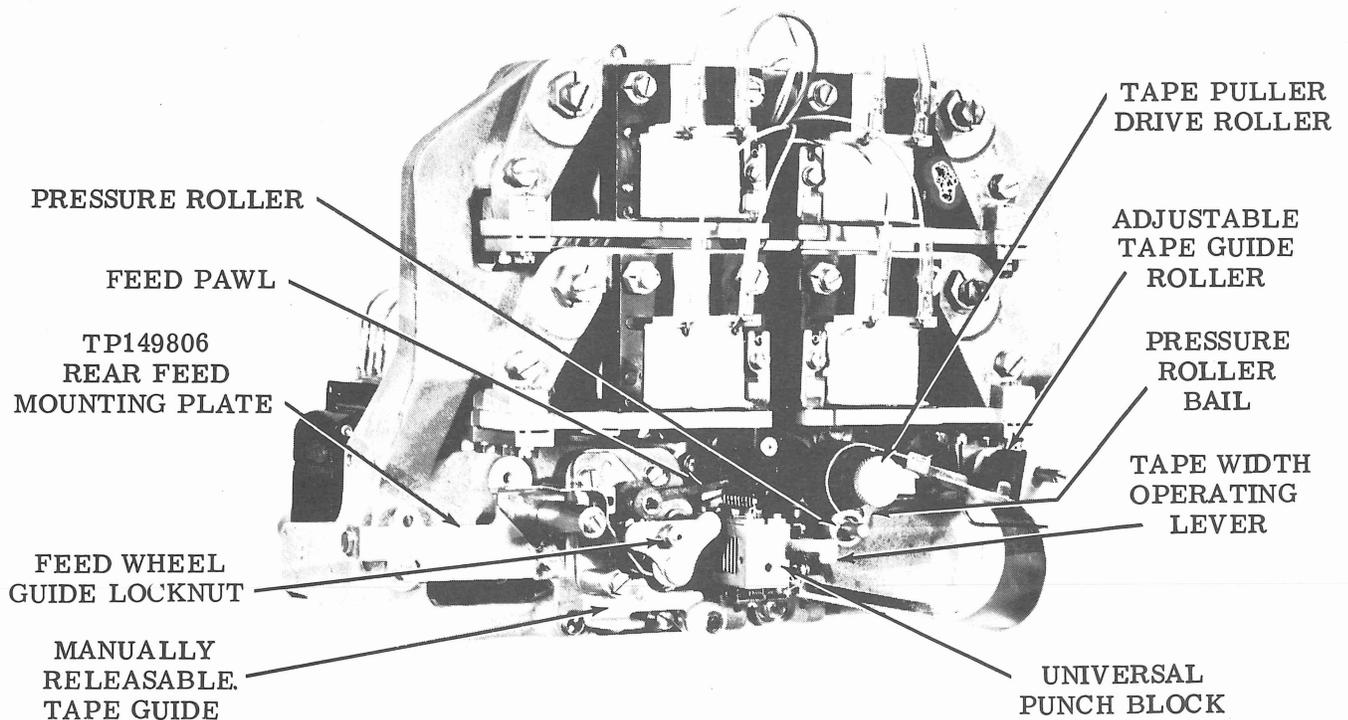

Figure 3 - Eight-Level Punch Unit, Front View (2400 WPM)
- (2) After torque is released, loosen only the screw (TP152893) securing the end of the drive spring, under flat washer (TP125011) located on the feed wheel spur gear, and free the drive spring end.
- (3) Remove the three screws (TP151631), lockwashers (TP2191), and flat washers (TP7002) that secure the feed mounting plate (2000 wpm, TP177859, or 2400 wpm, TP149806) to the main casting.
- (4) Using care not to damage the springs or escapement pawl, remove the feed mounting plate with its associated feed mechanisms mounted on it.
**YIELD SPRING** (Figures 3, 4, and 5)